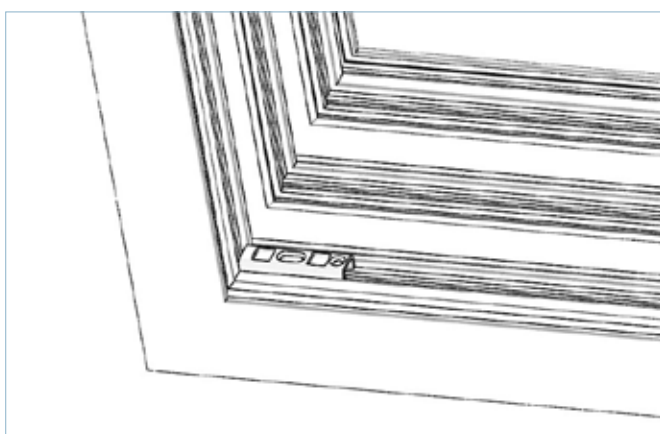

FIG 22
4. Insert the shoot bolt keeps into the top and bottom track and insert the provided screw into the slotted hole. Check the sash locks into place smoothly and the side to side movement is kept to a minimum. Once adjustment is complete, install the remaining screws (FIG 22)